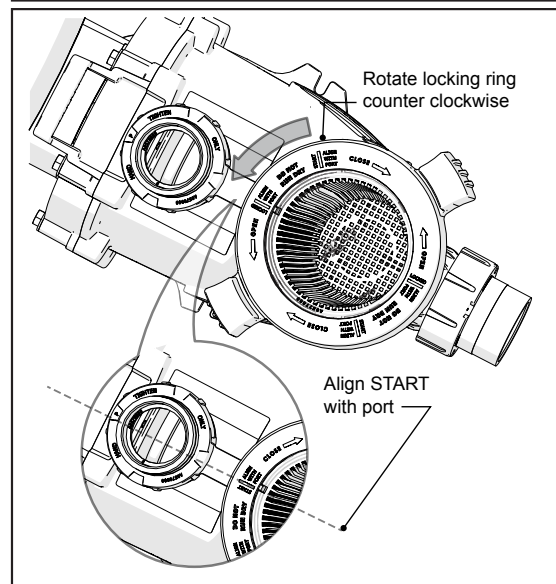

Figure 15. Disengage Lock Ring
4. Following the markings on the locking ring, turn the ring counter-clockwise until the 'START' markings align with the ports. See Figures 15.